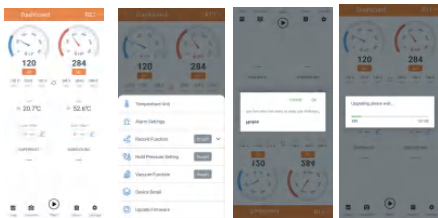

Figure 10 Device firmware upgrade
3. If the latest firmware needs to be upgraded, the device will enter the upgrade process, and the interface will show that **Update...** (Figure 10).